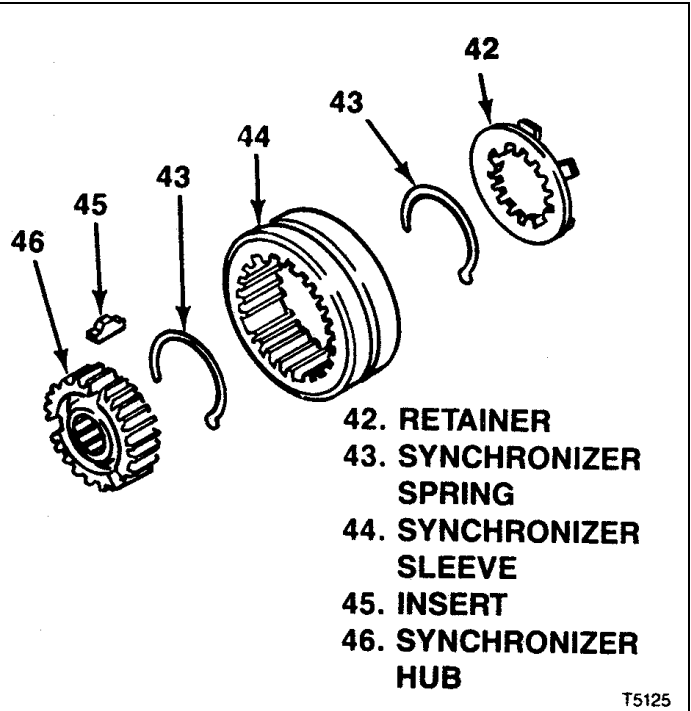

Figure 4-13. T5 STD 5th Synchronizer Assembly
- a. Push countershaft gear (105) rearward to force bearing (101) and spacer (102) out of transmission case (106).
- b. Tilt front end of countershaft gear (105) up and remove from top of transmission case (106).
- c. Press bearing (103) from transmission case (106). Remove thrust washer (104).
4-19. DISSASSEMBLY OF T5 STD 5TH SYNCHRONIZER ASSEMBLY. Mark synchronizer sleeve (44) and hub (46) so that clutch teeth and faces can be assembled exactly as they were originally. Sleeve and hub are a matched set, selected at manufacture. Disassemble as follows (see figure 4-13):
- a. Remove retainer (42).
- b. Unhook and remove springs (43).
- c. Slide sleeve (44) from hub (46), freeing inserts (45).